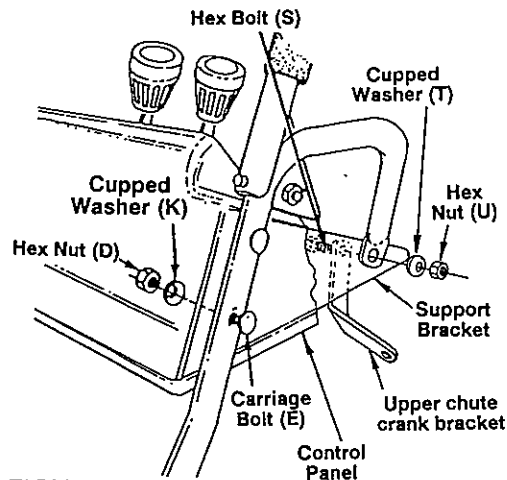

FIGURE 3
- Place the upper handles in position on the control panel so the ends of the handle go through the slots in the control panel assembly. See figure 3. **Note:** The lower ends of the upper handles should be positioned to cup the lower handle.
- Attach the front of the control panel assembly loosely using carriage bolt (E), cupped washer (K) and hex nuts (D). See figure 3.
- On the **left side** (shown in figure 3) position the upper chute bracket to the inside of the handle panel support. Insert hex bolt (S) through the upper chute crank bracket, handle panel support and handle, attach using cupped washer (T)
(cupped side against the handle) and hex nuts (U). See figure 3. **Do not tighten at this time.**
- On the **right side only** (not shown in figure 3) attach handle to the rear of the handle panel support using hex bolts (S), cupped washers (T) (cupped side against the handle) and hex nuts (U). See figure 3.